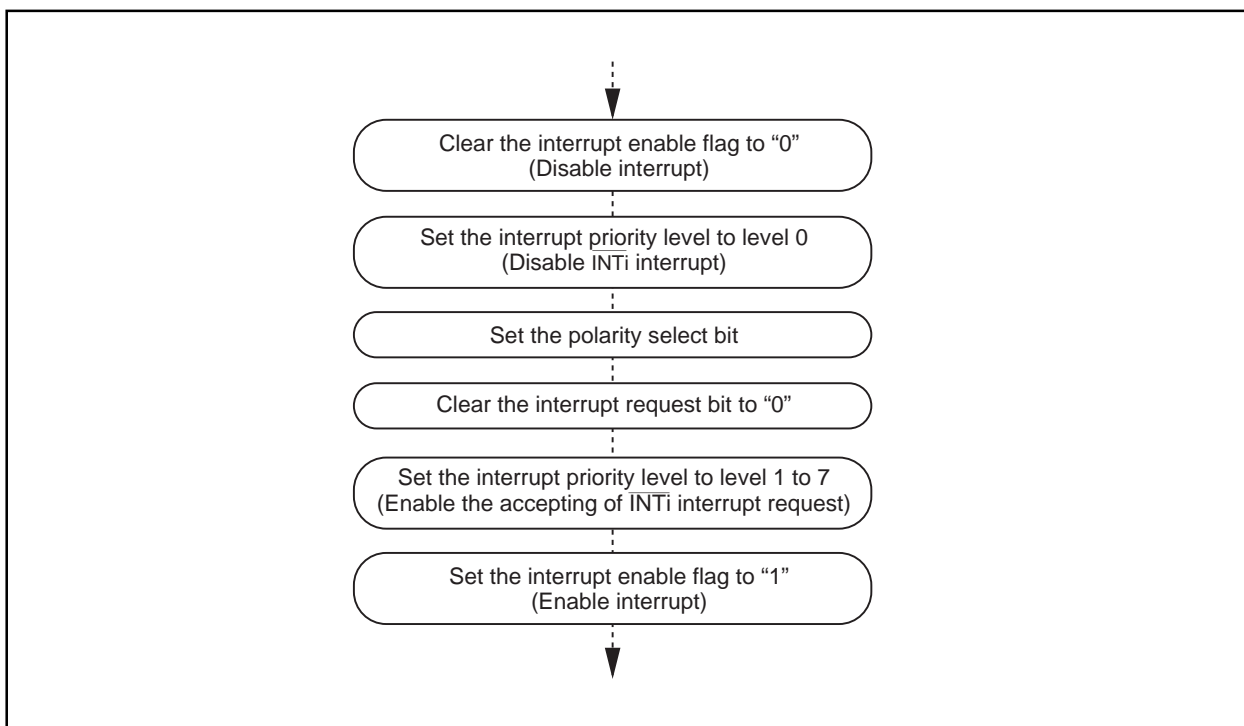

Figure 1.33. Switching condition of  $\overline{\text{INT}}$  interrupt request
**(2) Setting the stack pointer**
**(3) External interrupt**
- When changing a polarity of pins  $\overline{\text{INT0}}$  and  $\overline{\text{INT1}}$ , the interrupt request bit may become "1". Clear the interrupt request bit after changing the polarity. Figure 1.33 shows the switching condition of  $\overline{\text{INT}}$  interrupt request.